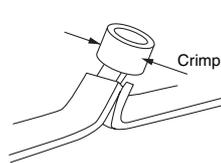
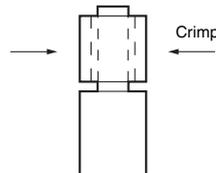

Figure 5
Figure 8
- (c) Pull the sleeve over the wires and crimp in the directions shown in *Figure 5* and *Figure 8*. Pull on the wire to check whether the crimping is effective.
Crimp in the directions as shown in *Figure 5* and *Figure 8*.